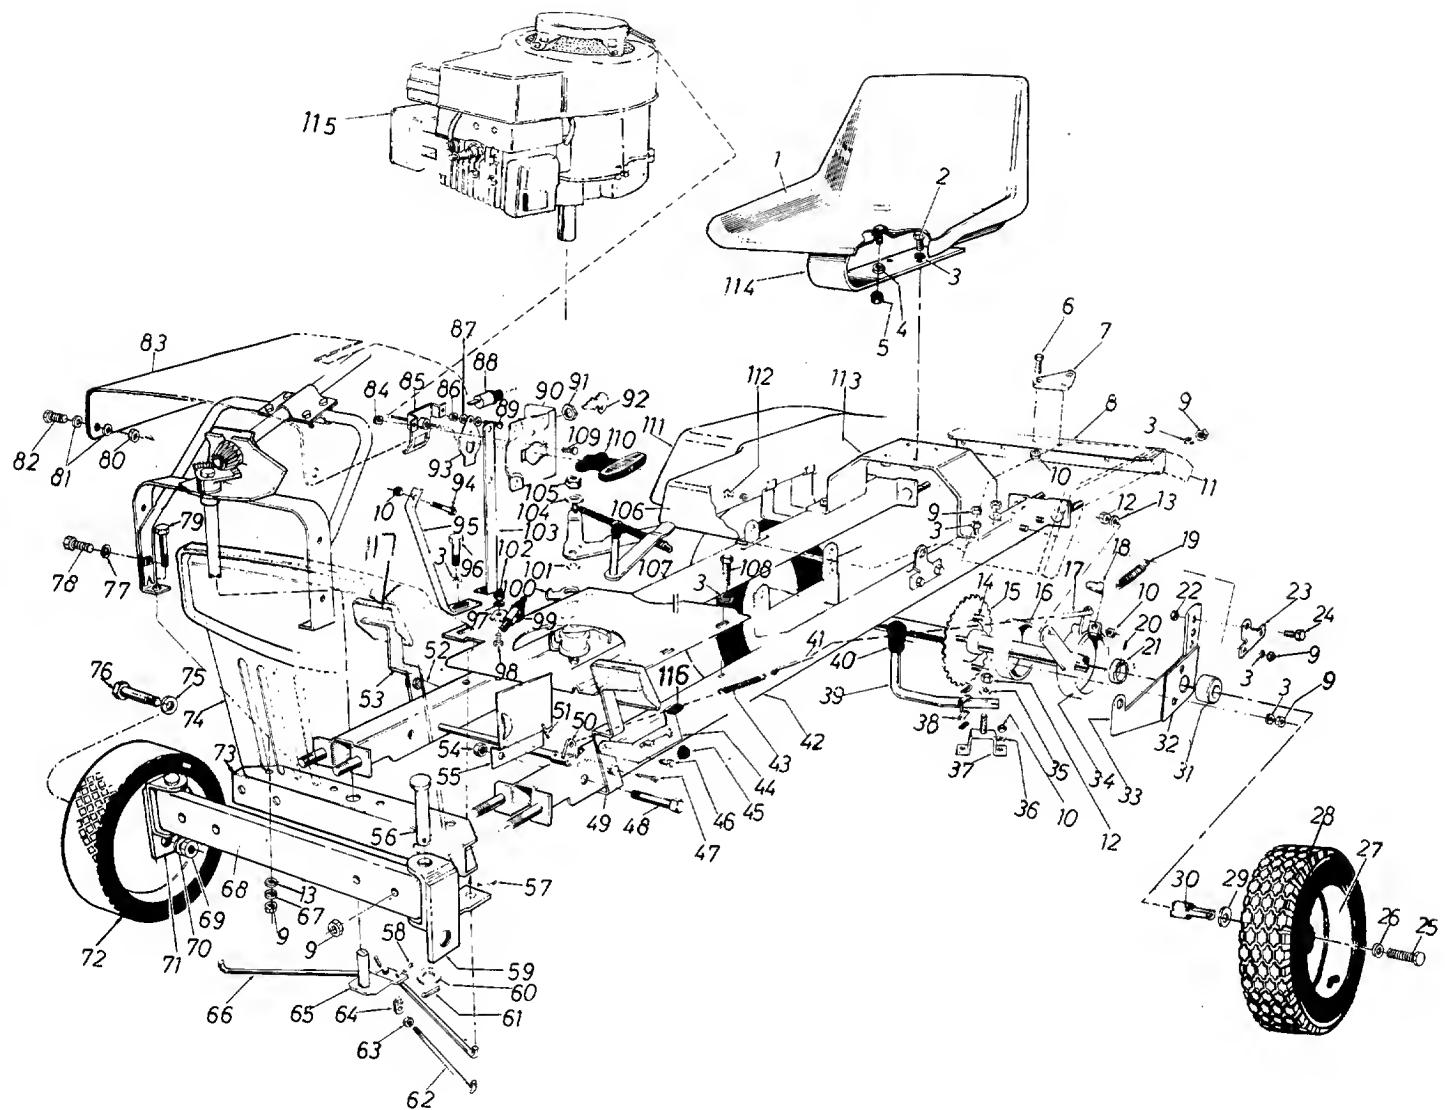

FIGURE 23. EXPLODED VIEW
**PARTS LIST FOR FIGURE 23 EXPLODED VIEW MODELS 135-360A AND 135-362A**